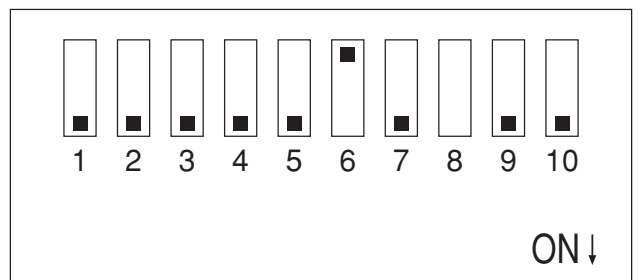

Fig.5 The Status of Dial-up (SW)
The status of dial-up (SW) is shown in Fig.5. If the ID address is 31, communication mode is 11bits: 1 start bit, 8 data bits, odd, 1 stop bit and the baud rate is 600bps.